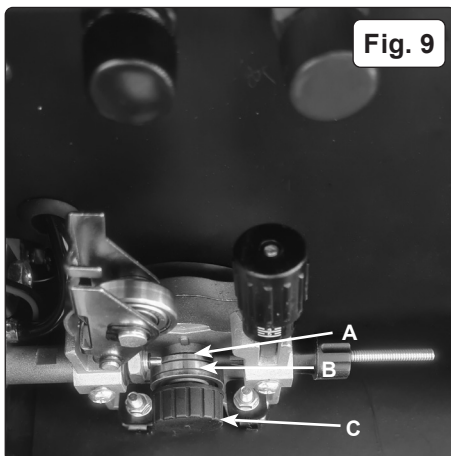

Fig. 9
#### 5.6. TURNING/CHANGING THE DRIVE ROLLER (See Fig.9)
5.6.3. Referring to Fig.9, loosen and unscrew the black feed roller retaining knob (C) and put to one side.